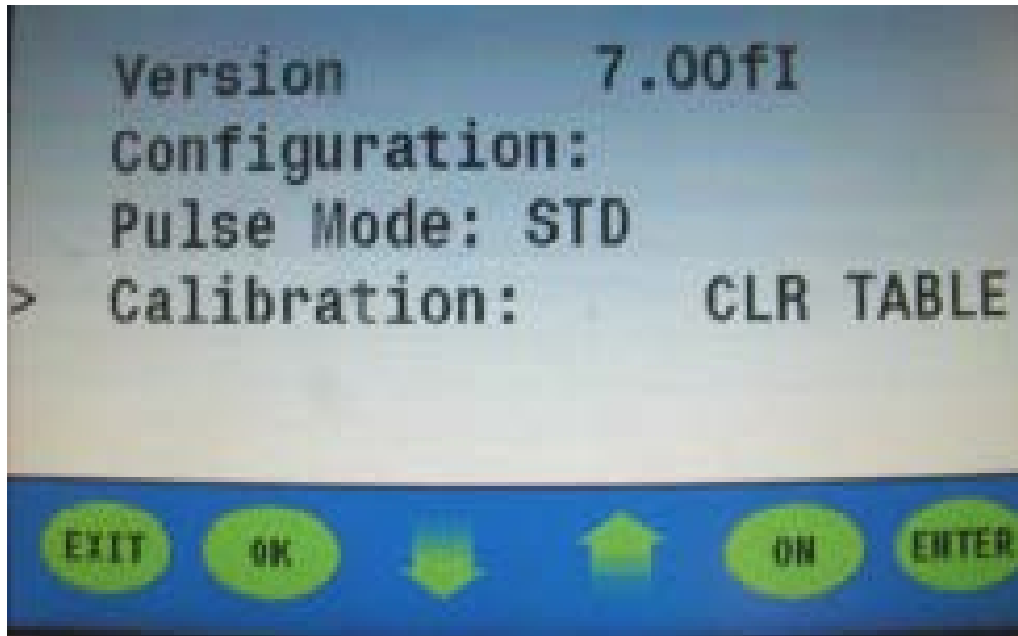

Figure 6
10. Press the **up or down arrow**; select “CLR Table” (**figure 6**).